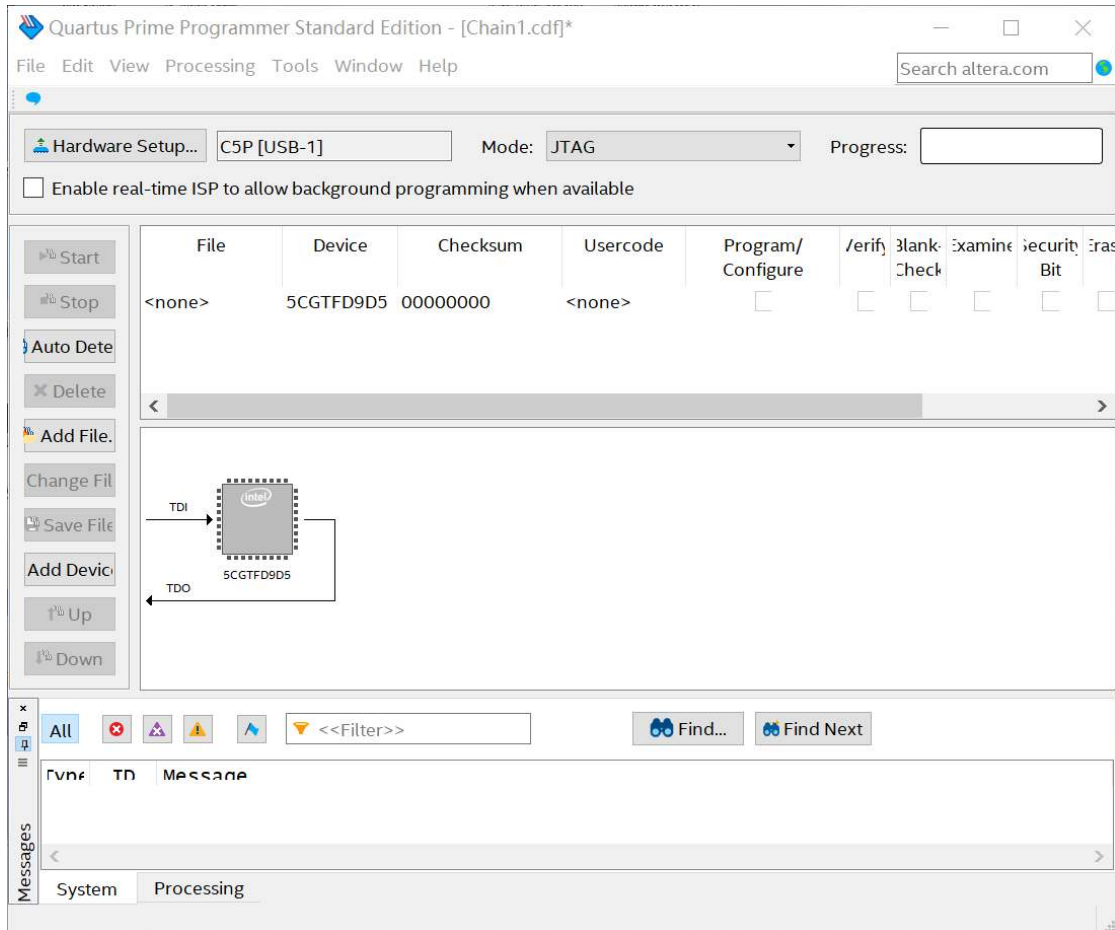
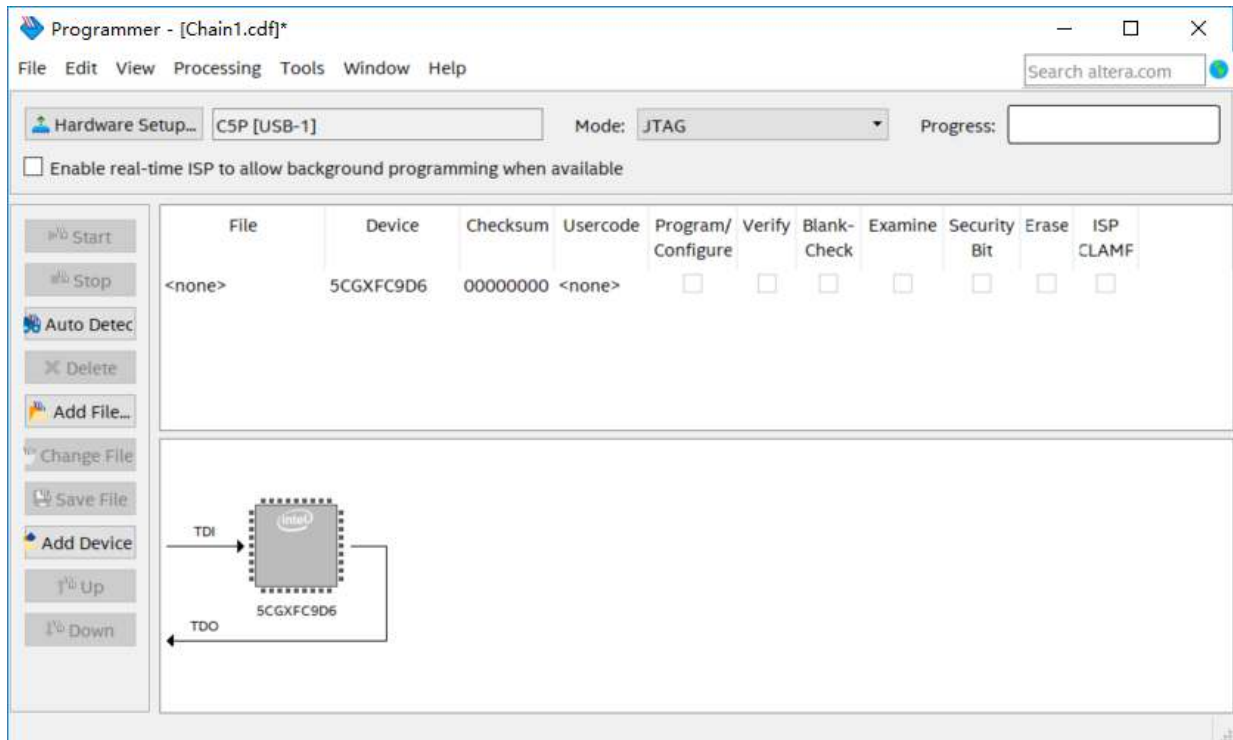

Figure 3-5 FPGA detected in Quartus programmer
Figure 3-6 FPGA detected in Quartus programmer for GX device
- The FPGA is detected, as shown in **Figure 3-5**. For FPGA GX device of the TSP board, it should be shown in **Figure 3-6**.